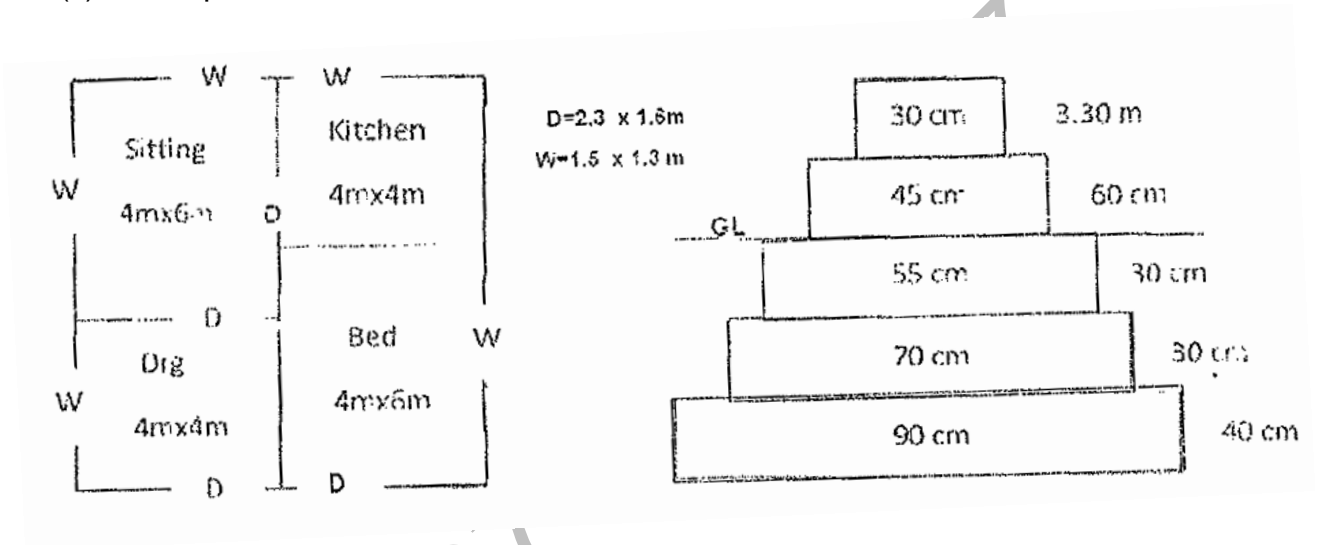

Fig. 1
13. Prepare a detailed estimate for the following items of work for a residential building plan shown in fig. 1 using center line method.